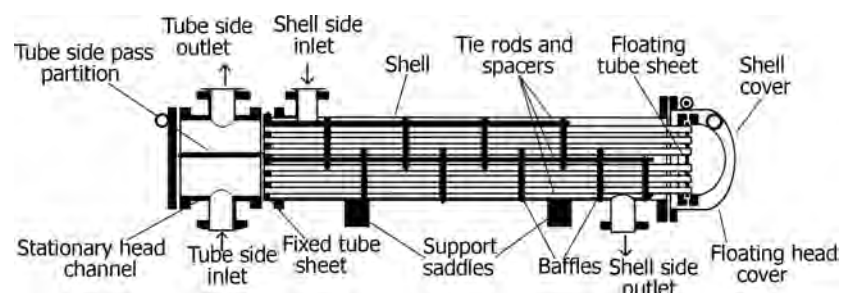
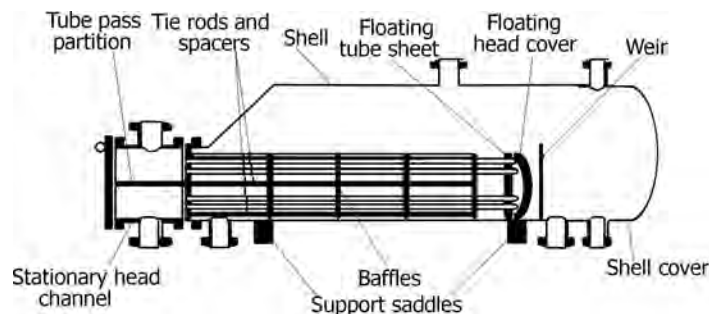

FIGURE 10.4 Pull-through 1–2 floating head heat exchanger with baffles (TEMA S).
FIGURE 10.7 Pull-through floating head heat exchanger, suitable for kettle reboilers (TEMA T).
- 1–2 shell and tube heat exchanger means that it has one shell pass and two tube passes (see Figure 10.4). The tube passes will be in multiples of two (1–2, 1–4, 2–4, etc.).
- In a floating head heat exchanger, one tube sheet is fixed relative to the shell and the other is free to float within the shell. This permits free expansion of the tube bundle (Figures 10.4 and 10.5).
- There are various types of floating head construction. The most common ones are the pull-through type with backing device, TEMA S (Figure 10.4) and pull-through TEMA T (Figure 10.7) designs.
- In the TEMAT construction (Figure 10.7), the entire tube bundle, including the floating head assembly, can be removed from the stationary end, since the shell diameter is larger than the floating head flange. The floating head cover is bolted directly to the floating tube sheet so that a split-backing ring is not required.